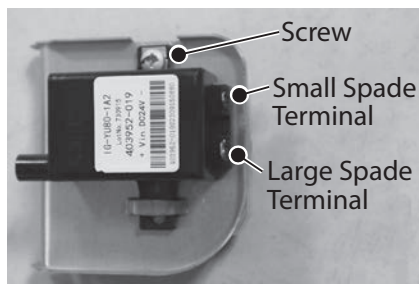

Figure 85 - Disconnecting ignitor assembly
- 11 Disconnect the two spade terminal connections at the back of ignitor and remove ignitor assembly and bracket from water heater. See Figure 85.